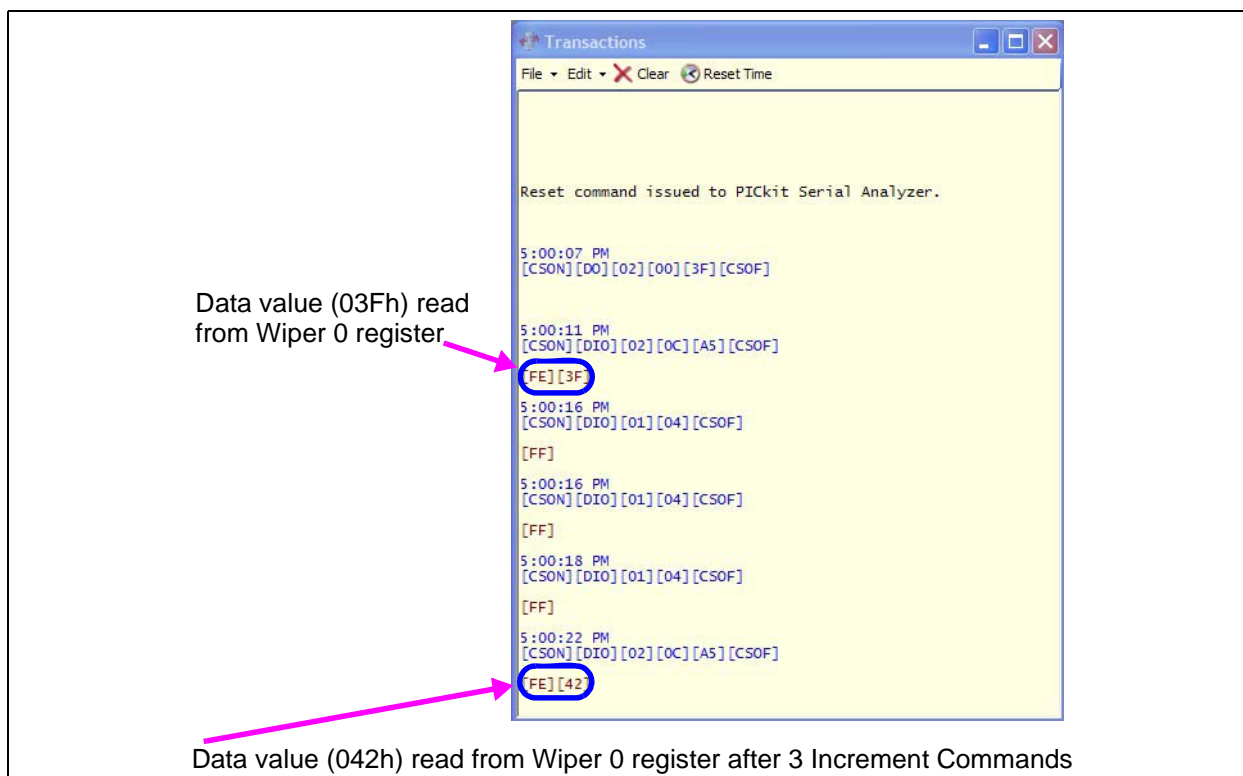

FIGURE 2-17: MCP4361 Transaction Window - Wiper 0 Increments.
32. Select the "ReadWiper0" script in the User SPI Scripts column and then click on the **Execute Script** button. The Transaction window shows the scripts that were executed and the current value of the Wiper 0 (see Figure 2-17).